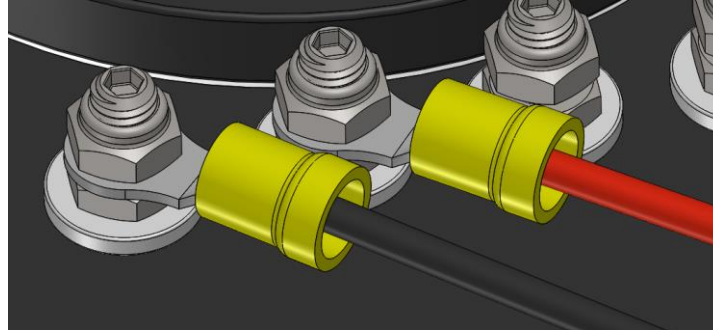

Figure 9
6. Plug the wiring connector into the pump and strip and crimp two of the included ring terminal ends onto the ends of the fuel pump wiring with heat shrink. Fasten the ring terminals to the corresponding positive and negative electrical connectors in between the lock nut and nylon nut as shown in figure 9.